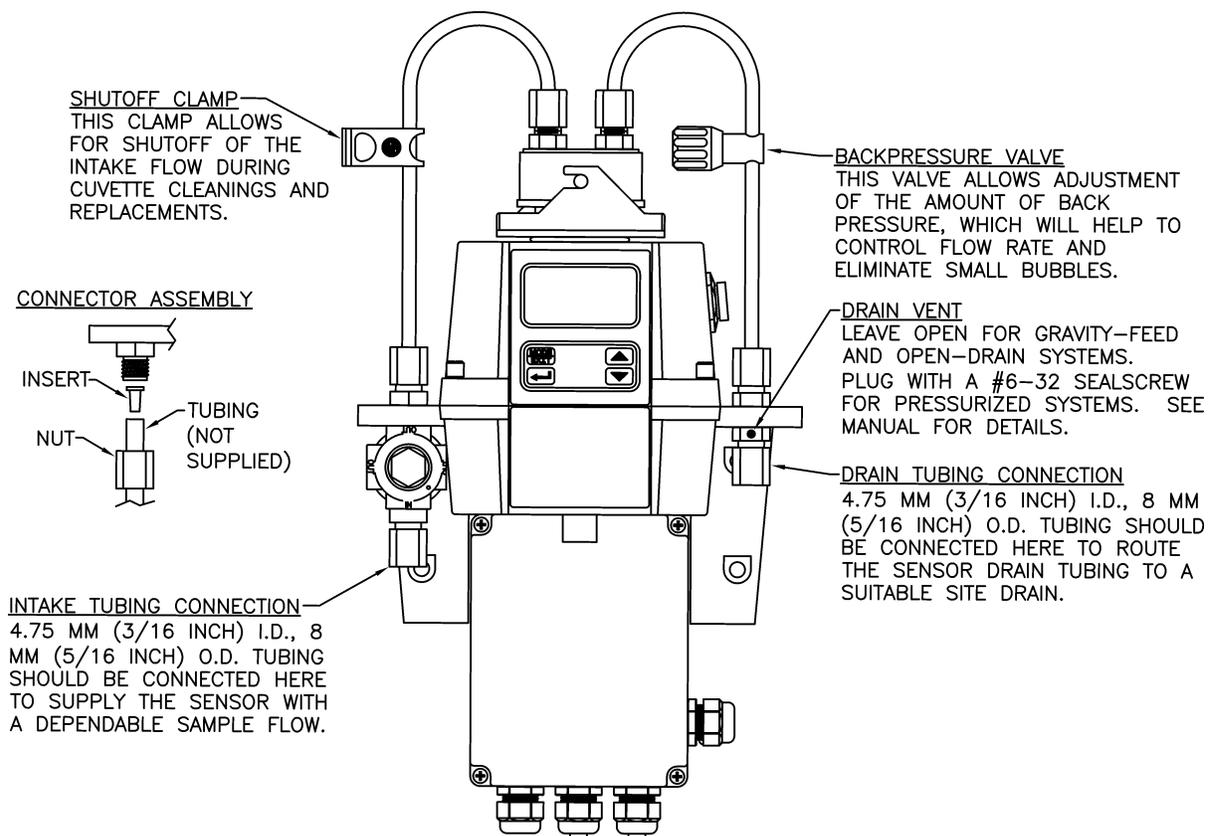

Figure 4: Recommended Plumbing for the Instrument
The recommended plumbing for the instrument is shown in Figure 4. The instrument is designed to require very little head pressure to operate; around 6.9kPa (1 PSI). The flow through cuvette is rated for a flow of 100ml/min. – 1 liter/min. (0.026-0.26Gal/min). The integral pressure regulator is rated for a maximum pressure of 1380 kPa (200 PSI.). The maximum allowable fluid temperature is 50°C (122°F).
In figure 4, there are two flow devices shown. The one on the input side is a shutoff clamp used during cuvette maintenance. The other device is a backpressure valve. Backpressure may be required to prevent air from coming out of solution, which may be observed as tiny air bubbles.
3.2.1 Drain Vent: The S200 TUr has been fitted with a drain vent in the “OUT” bulkhead fitting. This fitting allows for atmospheric equalization, thus helping to alleviate bubble formation in the cuvette. Refer to Figure 4.